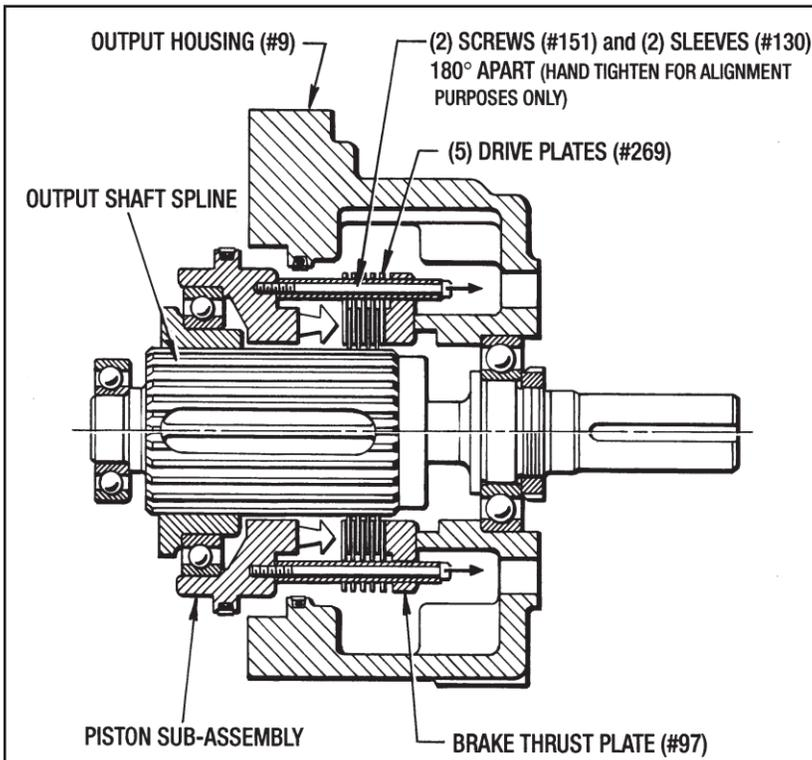

Figure 9.6 - Piston Alignment
9-6 INSTALLING PISTON SUB-ASSEMBLY and SPRINGS (See Figures 9.6, 9.7 and 10.1)
3. For ease of installation, attach (2) Screws (#151) and (2) Sleeves (#30) to the Piston (#3). **Only hand tighten these screws. Do not install the Springs (#36) or the Washers (#264).**
4. Insert the Piston Sub-Ass'y. down over the Output Shaft Spline and into the Output Housing. Align the (2) Screws (#151) and (2) Sleeves (#30) with the holes in the Drive Plates (#269). **Be careful not to damage the installed Liners (#42) and (#43).** (See Figure 9.6)